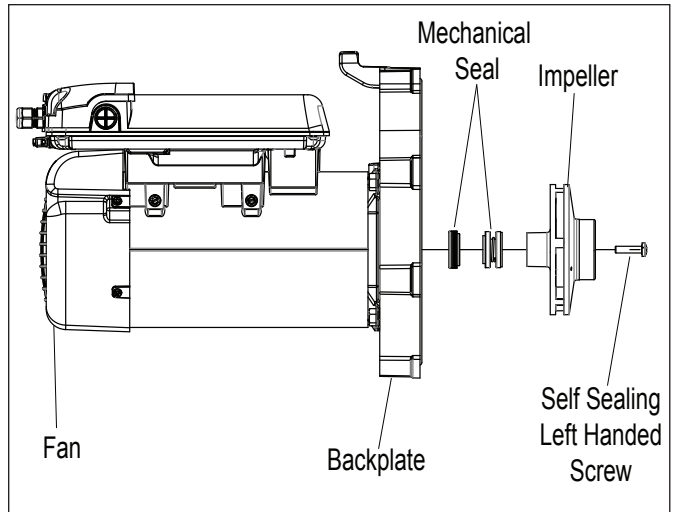

Figure 13. Remove the Impeller, Regal Beloit Motor
7. Remove the fan cover on the back of the motor by removing the screws. (See Figure 13.) The motor shaft and fan will be exposed.
8. Hold the exposed motor shaft with a 1/2" wide flat blade screw driver while removing the impeller center screw. Use a No. 3 Phillips screwdriver and turn the left-hand threaded screw clockwise to loosen it. See Figure 13.